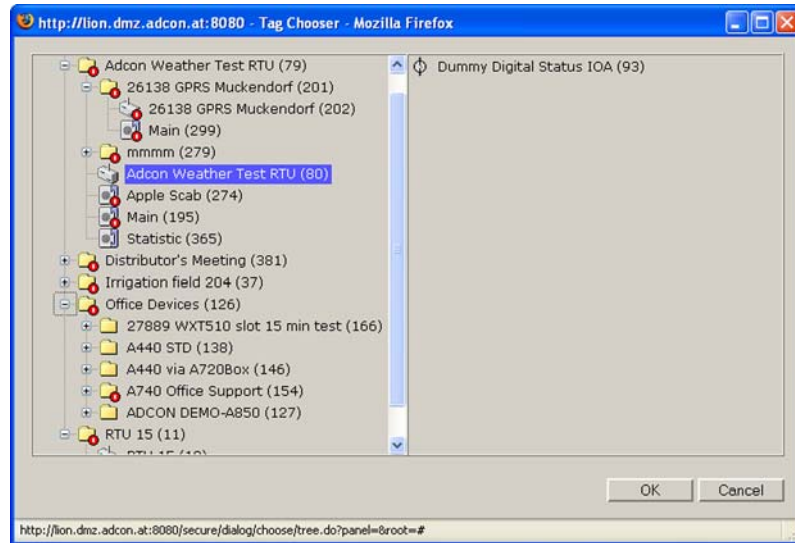

Figure 7. Tag Chooser Dialog
1. Click the **Add** button to display the Tag Chooser shown in Figure 7.